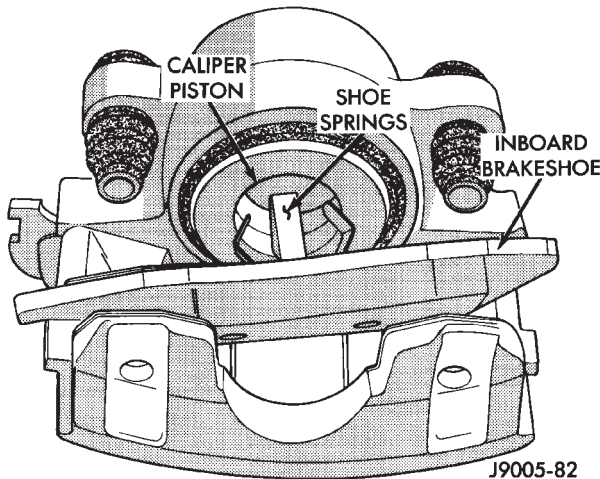

Fig. 8 Removing Inboard Brakeshoe
(9) Remove inboard shoe. Grasp ends of shoe and tilt shoe outward to release springs from caliper piston (Fig. 8). Then remove shoe from caliper.